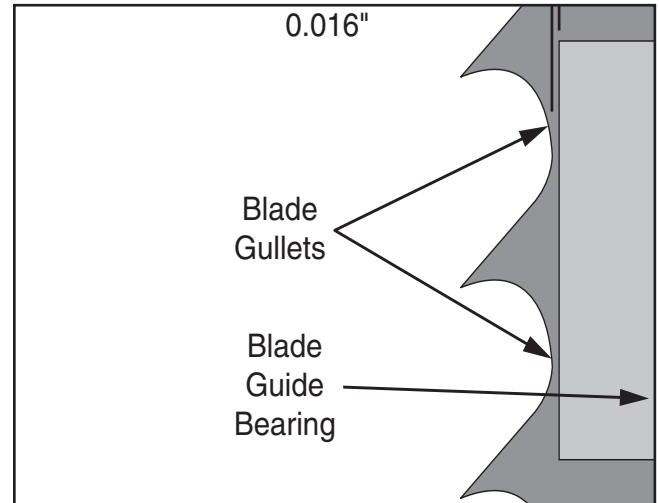

Figure 24. Lateral adjustment of blade guides.
4. Loosen lateral adjustment rod cap screw, loosen support bearing adjustment shaft bolt, and adjust blade guides until edges of bearings are $\frac{1}{16}$ " behind blade gullets, as illustrated in **Figure 24**.